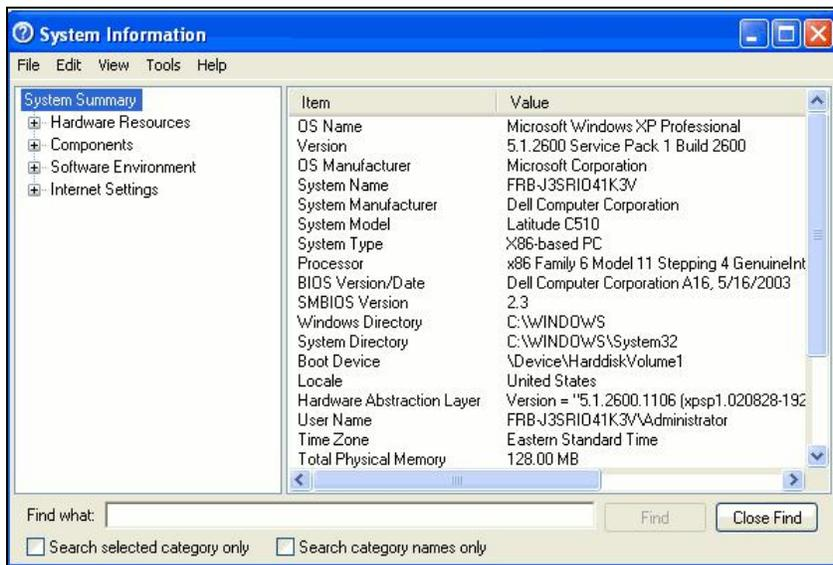

Figure 4.22
4. The Help window can also be used to obtain information pertaining to your computer. Click on the **'System Info'** button at the bottom of the window to display information regarding your computer. (Figure 4.22)